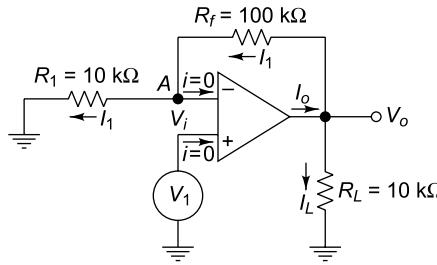

Fig. 5.6 Circuit of Ex. 5.4
5.4 Figure 5.6 shows the non-inverting amplifier, where $R_f = 10 \text{ k}\Omega$, $R_i = 100 \text{ k}\Omega$ and $V_1 = 1 \text{ V}$.